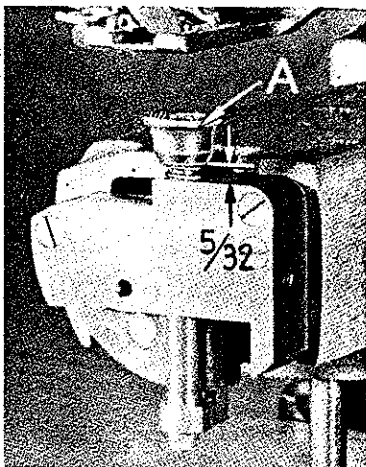
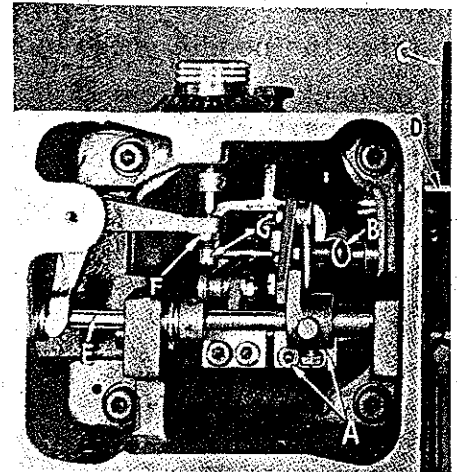
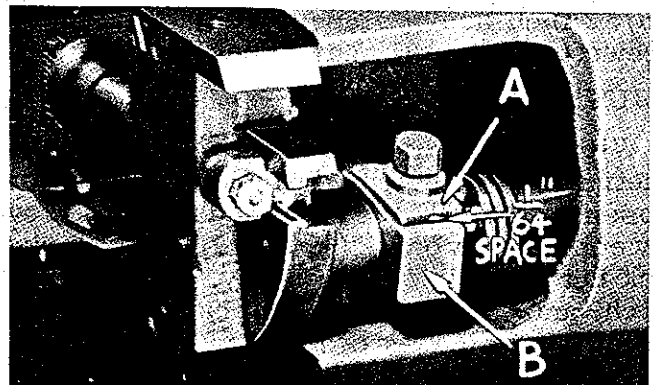
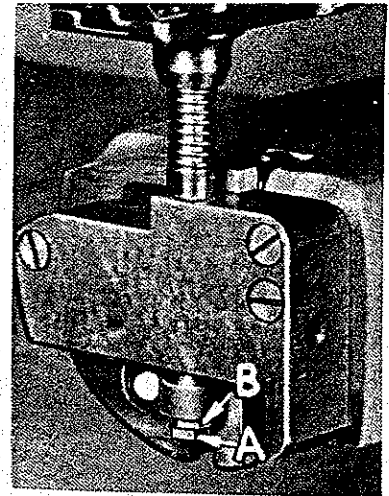

Fig. 9
Fig. 8
Fig. 10
Fig. 11
Tip machine on its side and loosen clamp screws (A, Fig. 8). Disengage spring (B) from crank roll. Depress lever (C) until it rests against its stop pin (D). Turn plunger
shaft (E) clockwise until bottom of work clamp (A, Fig. 9) is  $\frac{5}{32}$  inch above plunger bearing block. Tighten clamp screws (A, Fig. 8) and re-engage spring (B).
With machine in stop position, tilt machine on side, pull penetration dial out, and turn clockwise as far as it will go. Loosen locknut (F, Fig. 8), and adjust screw (G) until space between plunger block (A, Fig. 10) and crank (B) is  $\frac{1}{64}$  inch. Lock nut (F, Fig. 8) securely. Tip machine back, engage clutch, and turn pulley in operating direction until point of looper is over center of needle. Loosen locknut (A, Fig. 11) and adjust plunger up or down by means of nut (B) until point of looper just contacts needle. Lock nut (A) securely.